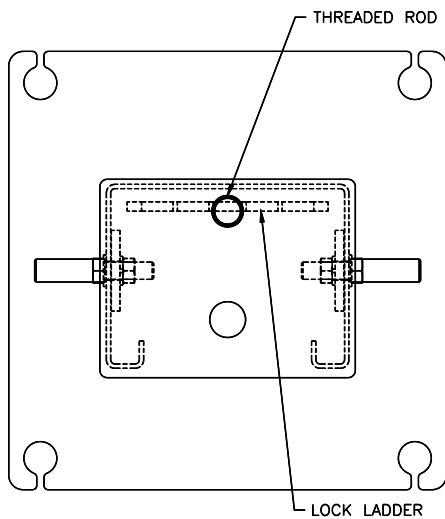

Fig 14 – Locking Ladder Orientation
22) Reassembly the lock ladder and top cap to column. Note: the lock ladder is offset from the center of the threaded rod, and orientate per **Fig 14.**